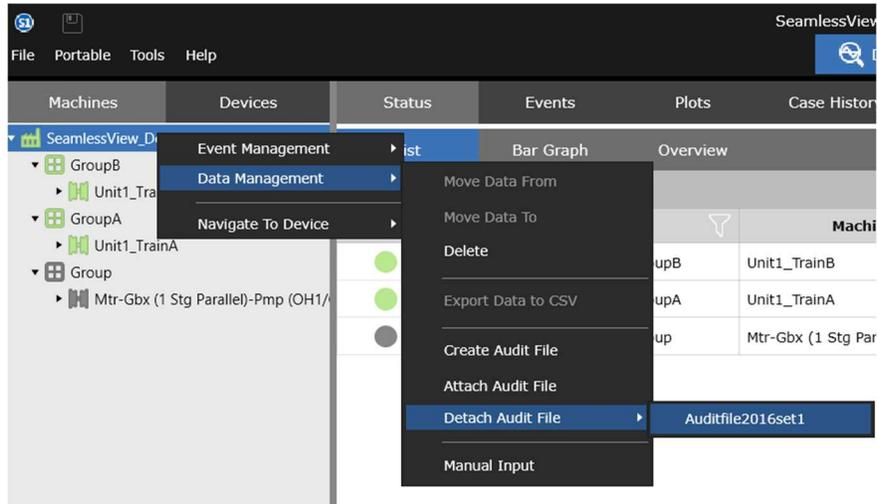

Figure 3-16: Detach Audit File
4. Choose an audit file to detach (Figure 3-16)